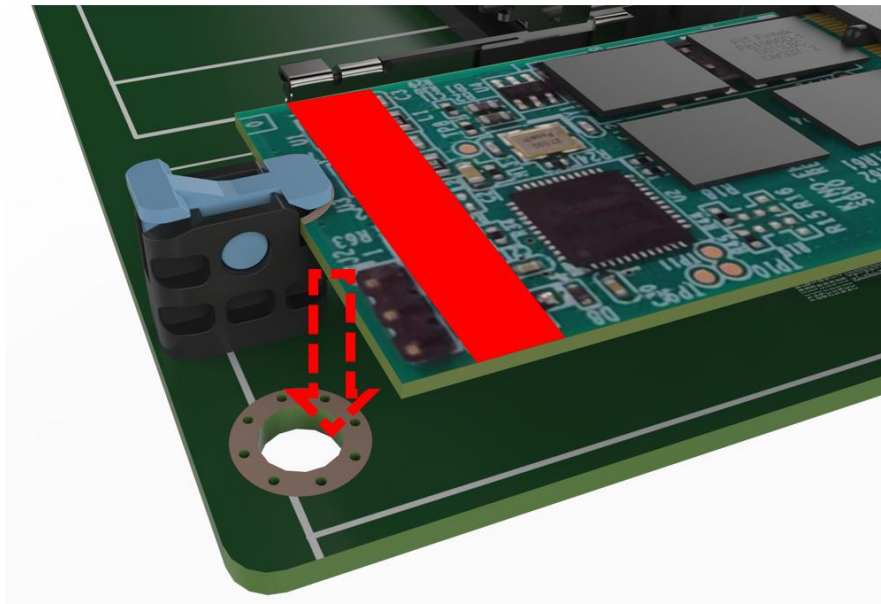

Figure 3-8: Securing the M.2 card
**Step 5: Secure the M.2 card.** Press down the M.2 card to fix it (**Figure 3-8**).